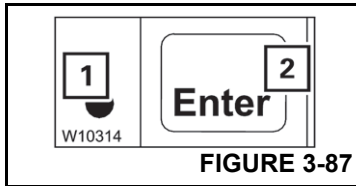

FIGURE 3-87
To confirm the rigging mode, press the button (2) (Figure 3-87) once:
- If the rigging mode is permissible, the lamp (1) goes out. The *Rigging Mode Monitoring Submenu*, page 3-85 opens and you can approve the rigging mode.